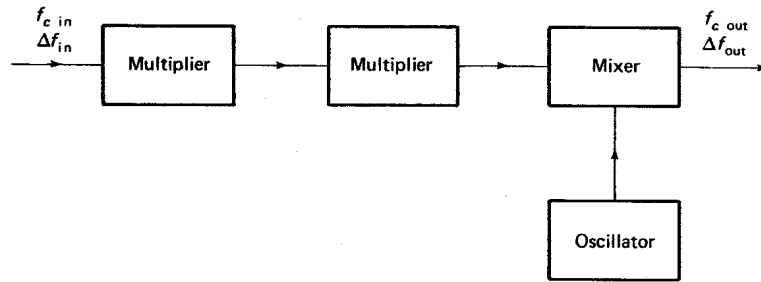

Fig. 4-20
- 4.66** In Fig. 4-20 determine the appropriate multiplier values and oscillator frequency so as to provide an output FM signal having a carrier frequency of 106 MHz with a frequency deviation of 60 kHz if the input is an FM signal having a carrier frequency of 9 MHz and a frequency deviation of 10 kHz. *Ans.*  $\times 2, \times 3, 52$  MHz
- 4.67** The block diagram of Fig. 4-20 is required to produce an output FM signal having a carrier frequency of 54 MHz and a frequency deviation of 24 kHz when presented with an FM signal at its input having a carrier frequency of 7.0 MHz and a frequency deviation of 4 kHz. Determine the multiplier values and frequency the oscillator should be tuned to in order to meet these specifications. *Ans.*  $\times 3, \times 2, 12$  MHz